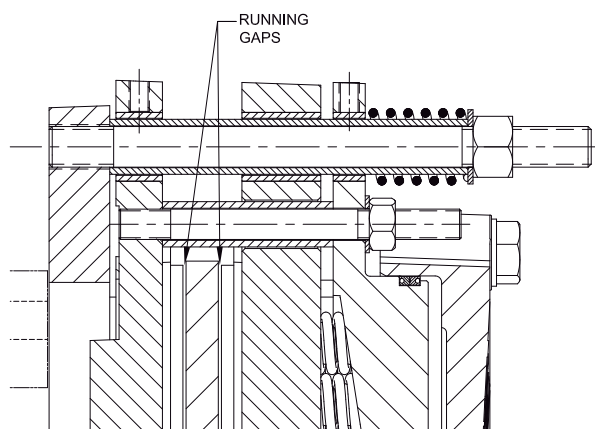

Figure 7
2.2.16 Thrust the motor shaft to its mechanical limit away from the motor frame. Measure the gap between the disc (4) and the friction lining mounted on the pressure plate (5). Thrust the motor shaft to its mechanical limit towards the motor frame and measure the gap between the disc (4) and the friction lining mounted on the floating plate (3). Verify that the measured gaps are within 0.020" (0.51 mm) of each other. Running gaps are shown in Figure 7.
2.2.17 If the running gaps are not within 0.020" (0.51 mm) of each other, loosen all the mounting screws. One at a time, remove each mounting screw and add or remove an equal thickness of shim at each lug to obtain running gaps that are within 0.020" (0.51 mm) when the motor shaft is thrust to its mechanical limits. Running gaps are shown in Figure 7. Tighten the mounting screws to specification. See Table 3. Repeat step 2.2.16 to verify that the gaps are correct.